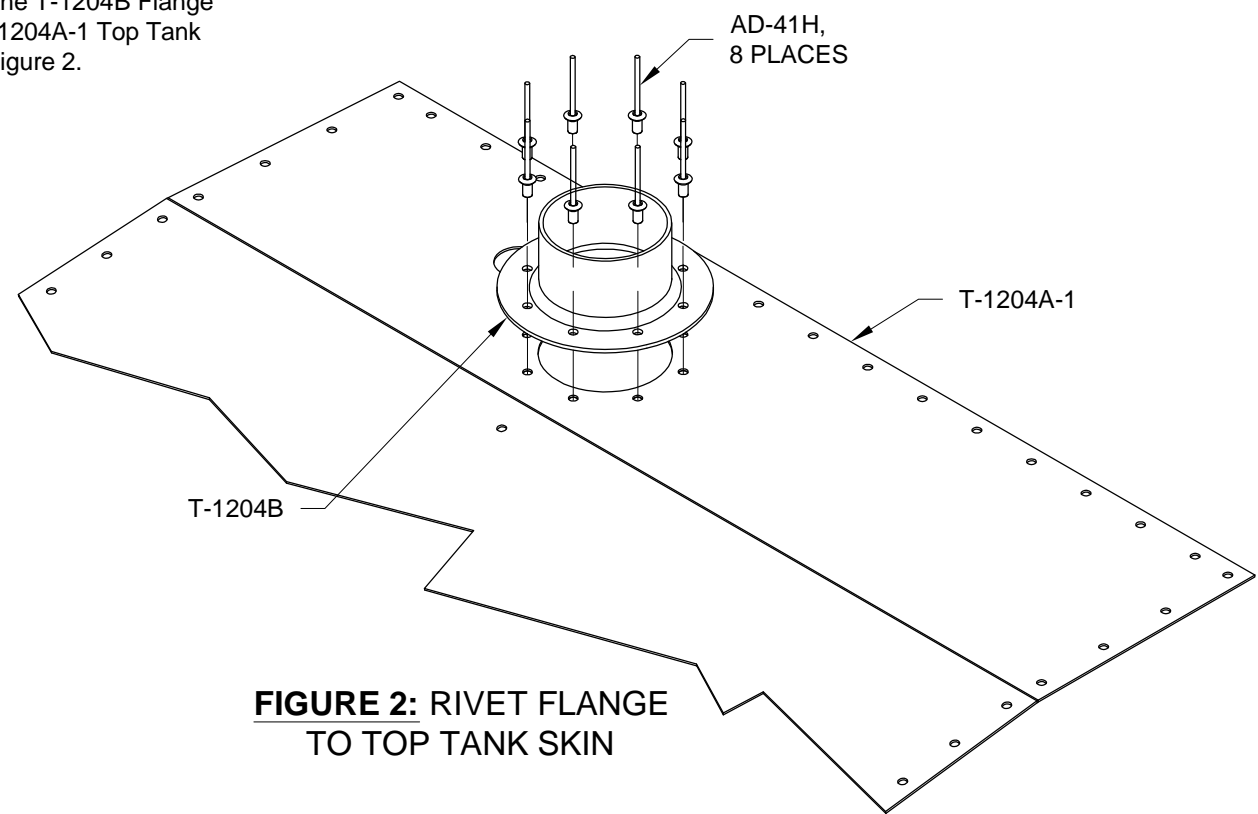

FIGURE 2: RIVET FLANGE TO TOP TANK SKIN
Step 2: Blind rivet the T-1204B Flange to the top of the T-1204A-1 Top Tank Skin as shown in Figure 2.